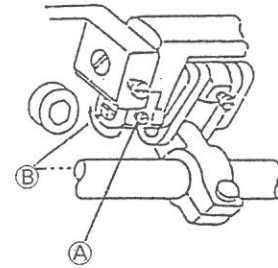

Fig. 22
4.8 Adjustment of Forward and Reverse Stitch Lengths (Fig. 22)